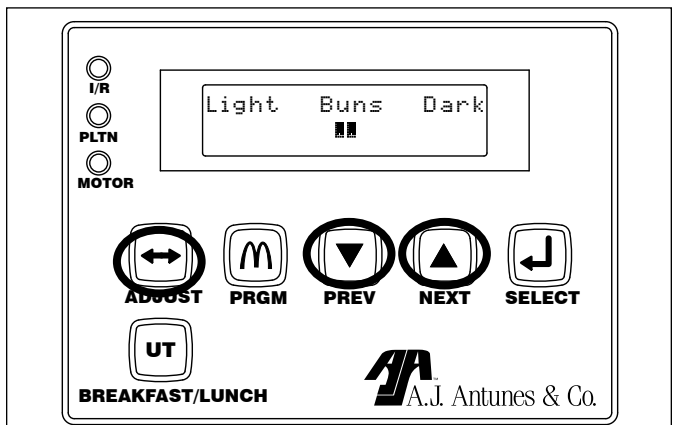

Figure 4. Adjusting Toasting Quality
2. Press and release the **ADJUST** button (Figure 4).
3. Use the **PREV** and **NEXT** buttons to adjust the toasting quality to lighter or darker respectively (Figure 4).